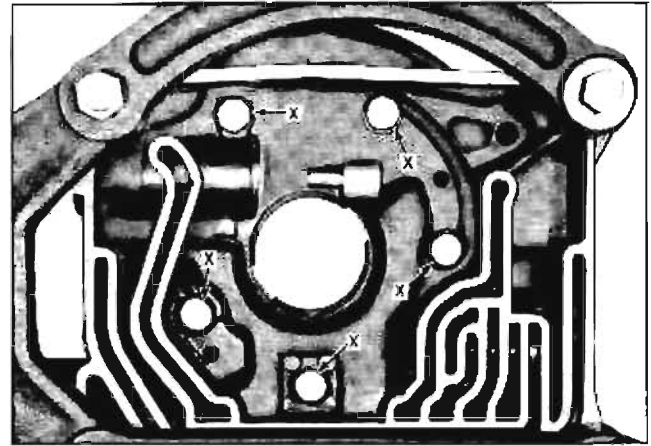

Fig. 7A-39 Rear Pump Mounting Bolts
23. Remove clip mounted on thick reverse reaction plate between the ends of reverse clutch snap ring and remove snap ring (Fig. 7A-38).